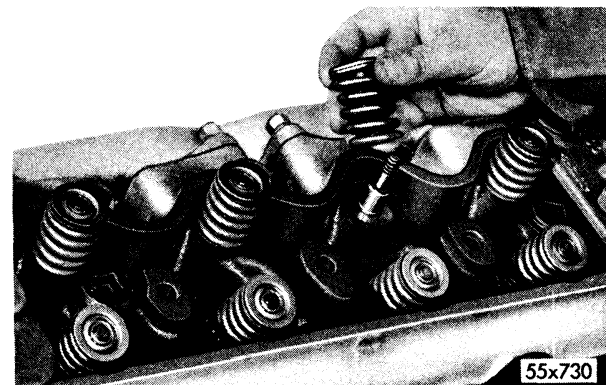

Fig. 70—Installing Exhaust Valve Spring and Retainer
- (1) Coat the exhaust valve stems with engine oil and insert in the head. Install the valve springs and retainer, as shown in Figure 70.
- (2) Compress the valve springs, using Tool C-3428. Install the valve locks and remove tool.